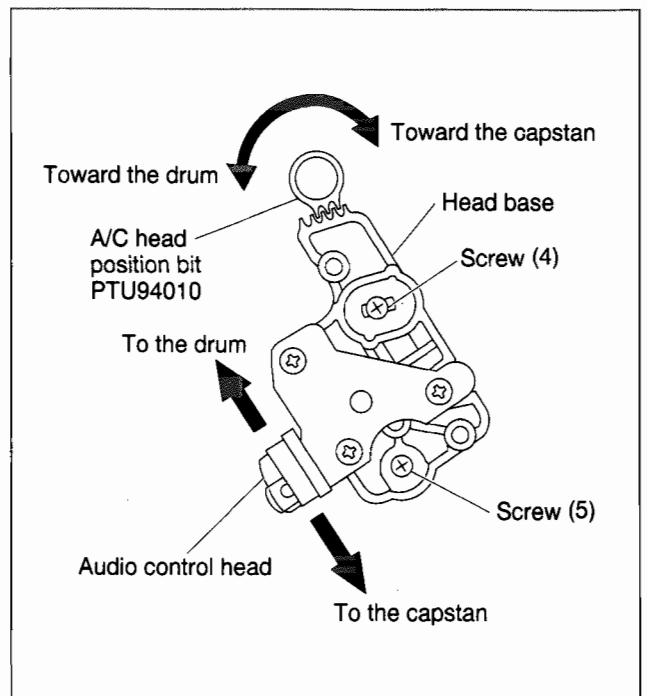

Fig. 2-3-6
- (1) Connect the oscilloscope to TP106(V. PB FM) of the main board assembly and to TP111(D.FF) of the main board assembly for external sync connection.
- (2) Play the alignment tape MHPE and observe the FM waveforms.
- (3) Press the channel buttons (▲, ▼) simultaneously during playback to enter the manual tracking mode. (This also brings tracking to the centre.)
- (4) Loosen screws (4) and (5) so that the A/C head position bit (PTU94010) is set as indicated in Fig.2-3-6.
- (5) Turn the A/C head position bit fully toward the capstan. Then turn it back gradually toward the drum and stop on the second peak point position of the FM waveform output level. Then tighten the screw (4) temporarily.
- (6) Then play the alignment tape MHPE-L.
- (7) Press the channel buttons (▲, ▼) simultaneously during playback to enter the manual tracking mode. (This also brings the tracking to the centre.)
- (8) Perform the tracking operation and make sure that the FM waveform is at its maximum.
- (9) If it is not at maximum, loosen the temporarily tightened the screw (4) and turn the A/C head position bit to bring the audio control head to a position, around where the waveform reaches its maximum for the first time. Then tighten the screws (4) and (5).